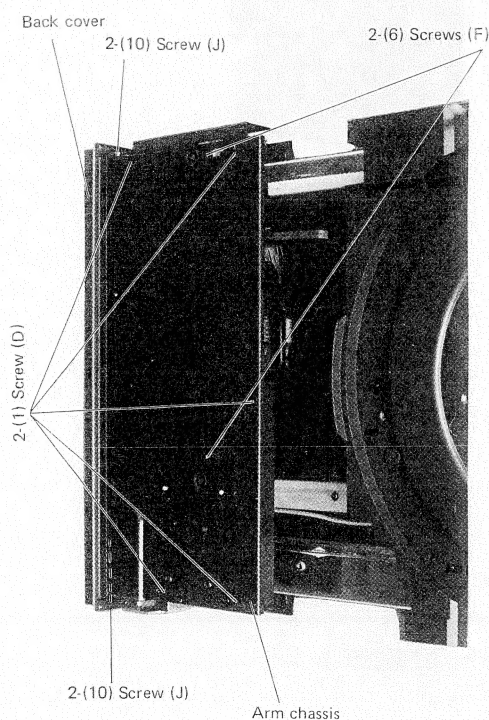

Fig. 2
- (6) Dismount tonearm ass'y. (See fig. 2, 4, 5, 6)
- (10) Dismount mechanism cover. (See fig. 2)